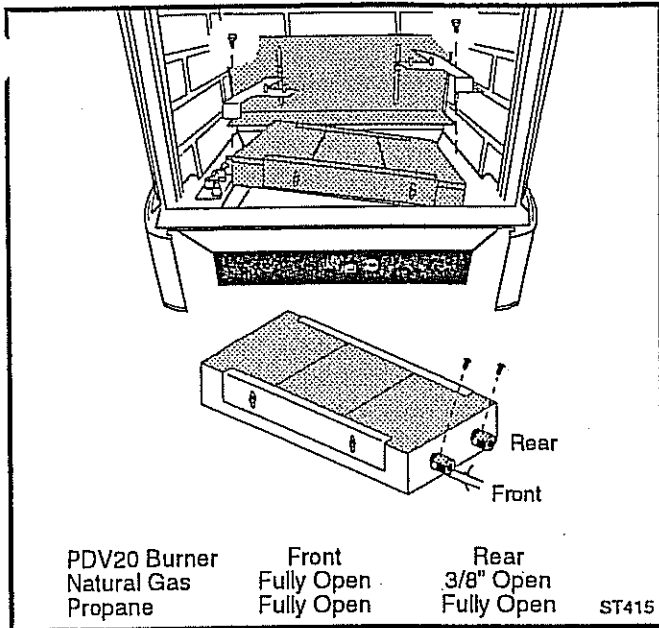

Fig. 73 Burner removal and air shutter settings.
Two air shutters, located on the burner, are set at the factory for either Propane or Natural Gas and should not need adjustment. However, installation characteristics vary, and adjustment may be needed to improve flame picture or eliminate sooting. Generally, the shutter openings should be set as shown in Figure 73. Closing the shutters (less air) produces a more yellow flame, more prone to sooting. Opening the shutters, (more air) produces a bluer flame. After adjusting the shutters, the stove should be burned for at least one hour to see the effect of the setting change. If soot appears on the glass, logset, or firebox, the air shutters must be opened to eliminate the condition. **Adjustment should be done only by a qualified gas technician.**
3. Loosen the shutter locking screws enough to adjust the setting as needed and re-tighten. (Fig. 73)